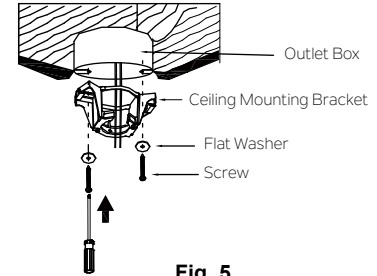

Fig. 5
**Step 1.** Before attaching fan to outlet box (not included), ensure the outlet box is securely fastened to at least two points to a structural ceiling member (a loose box will cause the fan to wobble). Pass the 120 volt supply wires from the ceiling outlet box through the center of the ceiling mounting bracket. Install mounting bracket to outlet box in ceiling using the screws and washers included with the outlet box or screws and washers in the hardware bag. (Fig. 5)